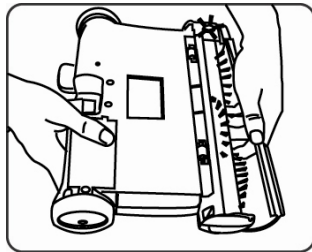

Fig. 16
- Periodically remove the transparent brush cover on the front of the cordless sweeper and remove any build up of lint, hair or fiber on the rotating brush. To remove the cover - grip the cover from the bottom, pull out and upward until the cover unlocks from the side slots and tabs located on the top of the sweeper. Carefully cut away threads or hair with scissors. (Fig. 16)